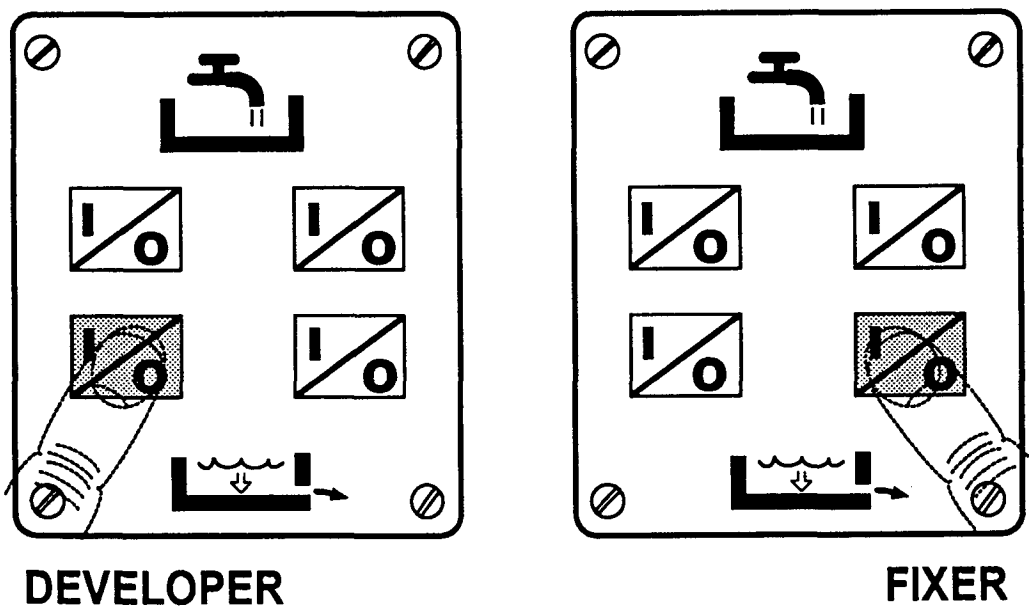

figure 10
6. The CIRCULATION PUMP SWITCHES energize the RINSE PUMPS either for the DEVELOPER side (left hand switch) or for the FIXER side (right hand switch see figure 10).